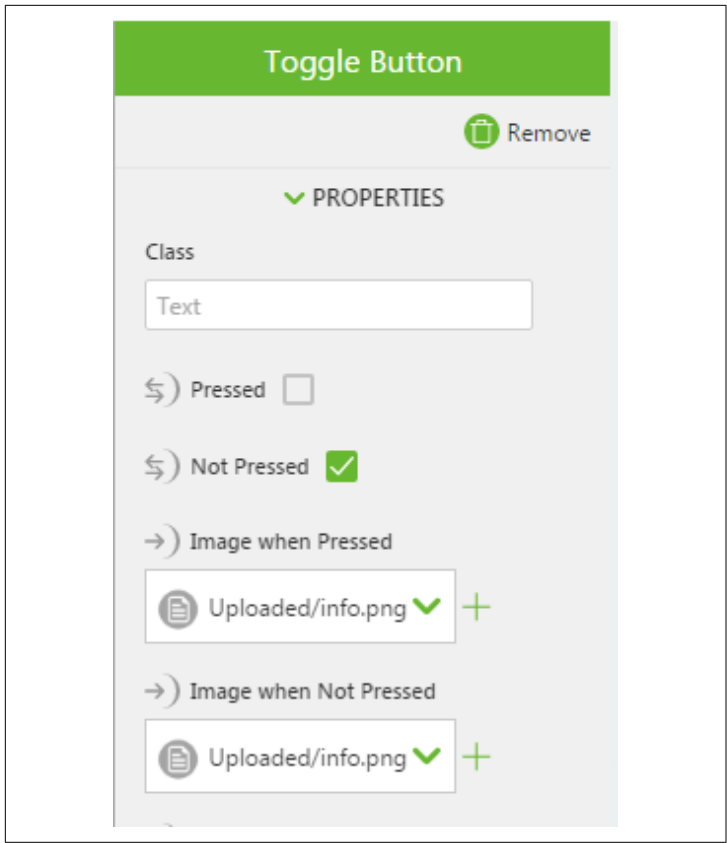

Figure 3-16. Changing “Image when Pressed” and “Image when Not Pressed” to info.png
10. In the PROPERTIES pane, change both “Image when Pressed” and “Image when Not Pressed” to the *info.png* image using the drop-down menu under the fields (Figure 3-16).